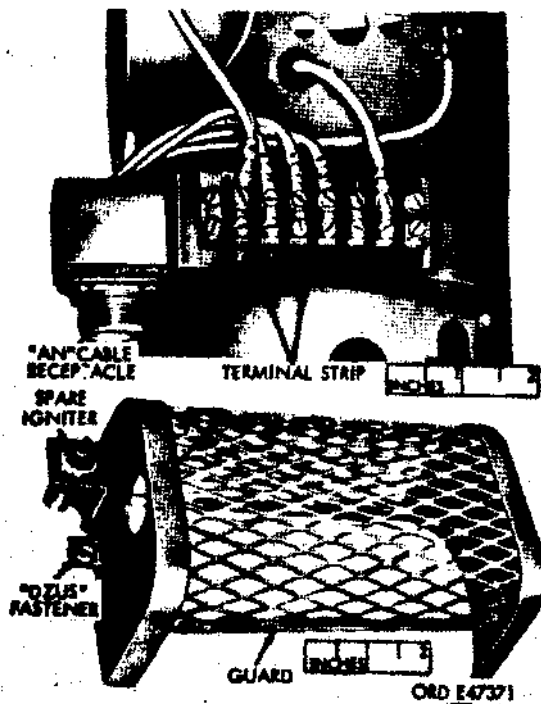

Figure 582. Terminal strip and guard
- (12) Terminal strip (fig. 582). A terminal strip consisting of six terminals, is provided on top of the heater housing to facilitate disassembly.
(13) Protective cover guard. A heavy mesh protective cover guard (fig. 582) is secured to the top heater heater housing by means of two Dzus fasteners. This cover protects the heater components located on the top of the housing. The heater wiring diagram is mounted inside the cover.
Note. Latest type control box (fig. 582) with press-to-test indicator light does not have safety valve reset switch because the safety valve has been eliminated.